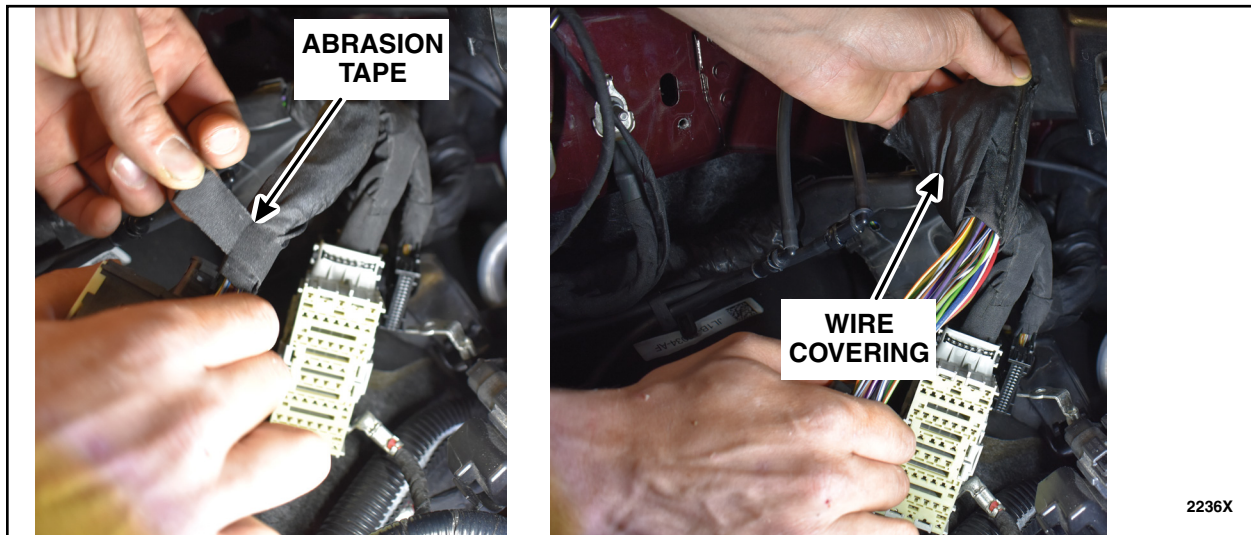

FIGURE 30
36. Remove abrasion tape from the harness and peel back the covering about 300mm. See Figure 30.